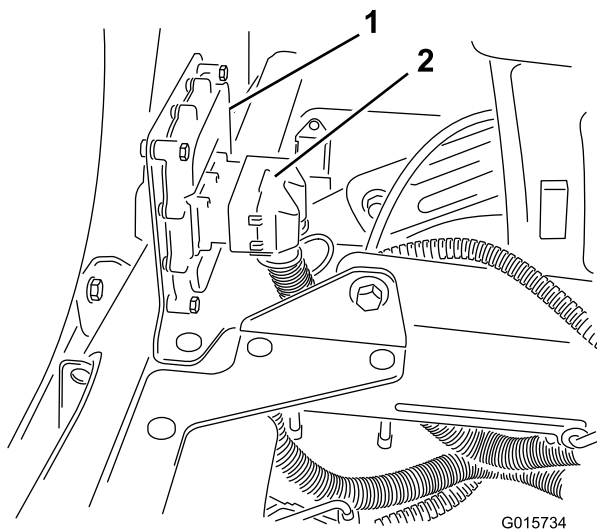

Figure 18
1. For model 5800, connect the terminal on the wiring harness into the electronic controller and secure it with an Allen wrench (Figure 18).